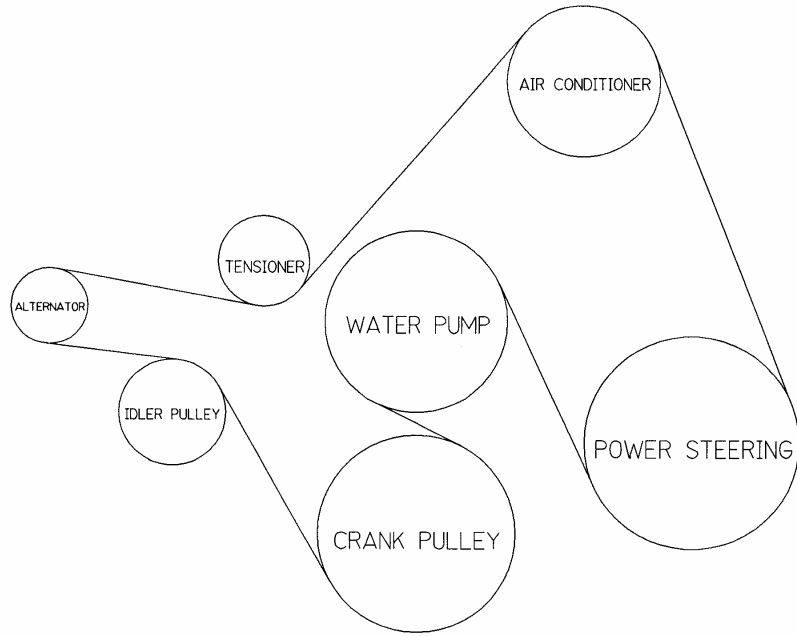
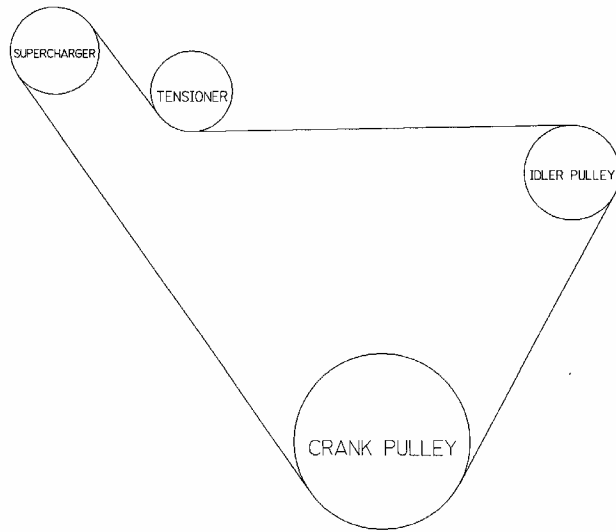

Figure 4
Figure 4A
Step 7. Install the new accessory belt (K060994) using the diagram shown in Figure 4. (next page) **Note:** GM makes 3 different size Air Compressor's for this vehicle. Powerdyne has included the most popular size. If you need to purchase a different belt to fit. Please return the new supplied belt and a copy of your receipt. Powerdyne will reimburse you for the correct belt.
Step 8. Mount Supercharger to mounting plate using the (7) 3/8-16 x 1" Cap head screws and AN washers supplied. Install ribbed idler pulley, standoff, pulley retainer and 10mm bolt and washer to threaded boss on AC bracket.
Step 9. Install the provided supercharger drive belt using the supplied belt tensioner as per Figure 4A. (Next Page). Make sure the tensioner is installed "long side" down. Tension belt so that you cannot turn the slack side more than 90 degrees with your fingers. (Good and Tight!) Reinstall the fan shroud.